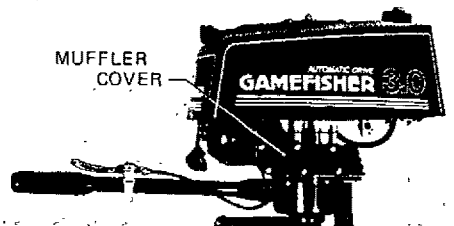

Figure 3
- a. Periodically remove muffler cover by unscrewing screws and inspect for carbon build-up inside the muffler inlet and outlet, the exhaust port and the combustion chamber of the cylinder. Excessive carbon will prevent drawing the maximum power out of the engine. (See Figure 3).